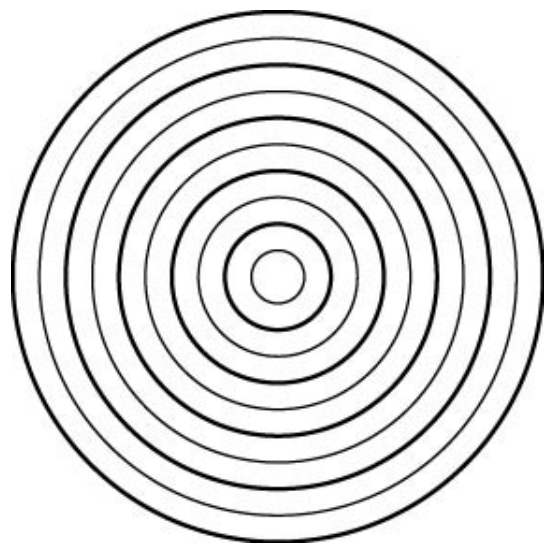

Fig. 2
**Note:** It is important to record where the bare shaft hits in relation to the group. Record this in figure 2 for later use.
If an emergency arises where the bow needs to be re-tuned quickly, set the nock point then adjust the spring tension until the bare shaft hits relative to where the group is, as in figure 2.